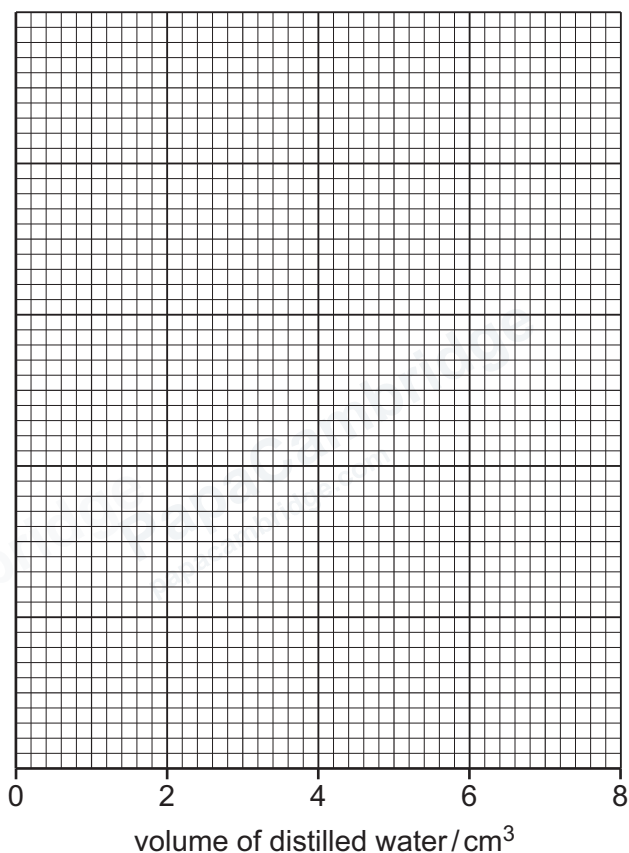

Figure 1.1
(b) Write a suitable scale on the y-axis and plot your results from Experiments 1 to 5 on Figure 1.1.
- (d) Use your graph in Figure 1.1 to predict the temperature decrease if the experiment is repeated using 5.5 cm^3 of distilled water.
Show your working on Figure 1.1.
- (h) Sketch on Figure 1.1 the graph obtained if all of the experiments were repeated using 2 g of solid citric acid and 2 g of solid sodium carbonate. [1]